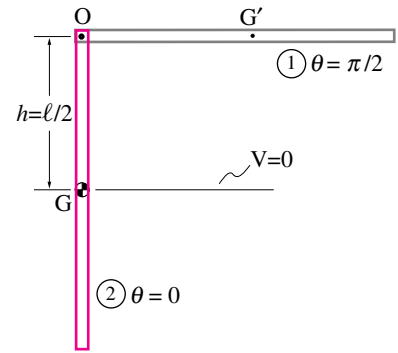

Figure 16.72: The total energy between positions (1) and (2) is constant.
2. **Find ω at $\theta = 0$:** We are given that at $t = 0$, $\theta = \pi/2$ and $\dot{\theta} \equiv \omega = 0$ (released from rest). This position is (1) shown in Fig. 16.72. In position (2) $\theta = 0$, i.e., the rod is vertical. Since there are no dissipative forces, the total energy of the system remains constant. Therefore, taking datum for potential energy as shown in Fig. 16.72, we may write